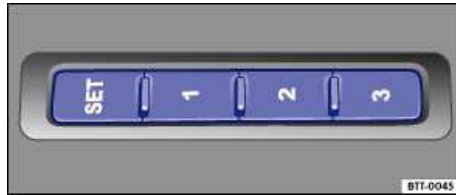

Fig. 68 Memory buttons on the outer side of the driver seat.
- Shift the transmission to Neutral (N).
- Press **SET** for at least 1 second ⇒ fig. 68.